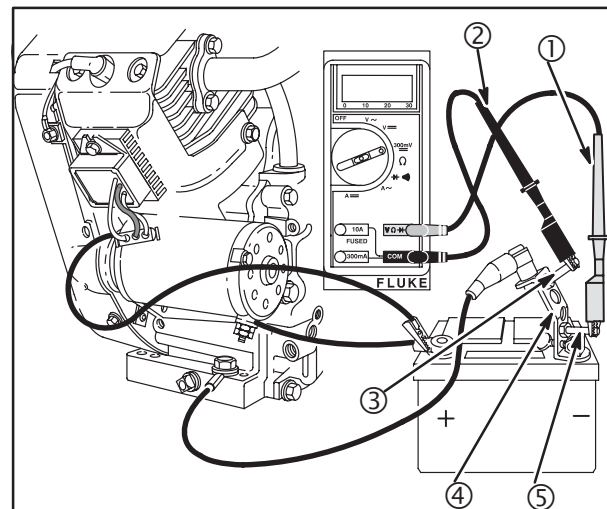

Fig. 32
The DC Shunt **must** be installed on the **NEGATIVE** (-) terminal of the battery, **Fig. 32** to avoid blowing the fuse in the meter when testing the output of the 20 amp system. All connections must be clean and tight for correct readings.
2. Install DC shunt #19359 (4) on **NEGATIVE** battery terminal.
3. Insert RED test lead into **VΩ** receptacle in meter and connect to **RED** post terminal on shunt (5), **Fig. 32**.
4. Insert **BLACK** test lead into **COM** receptacle in meter. Connect to **BLACK** post terminal on shunt (3).